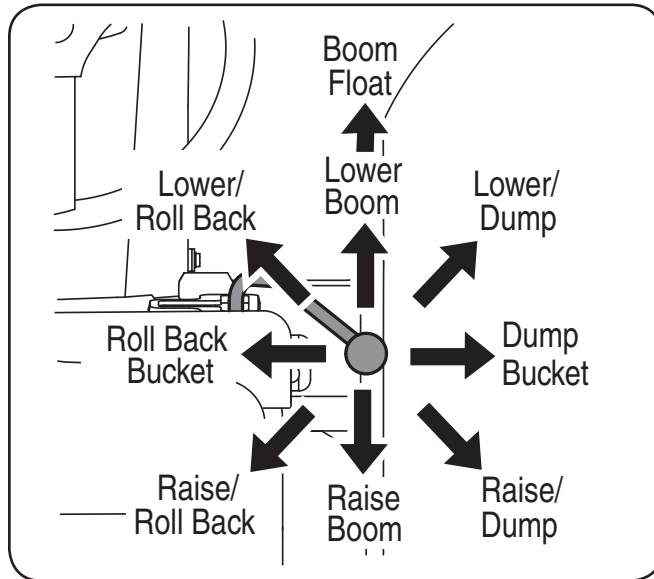

Figure 11
- Continue to carefully extend the boom cylinders (and roll back the bucket if necessary) until the center points of the support plates on the bottom of the loader hitch bracket at the front of loader hitch arms are resting on the ground (Refer to Figure 11). The support plates and bucket should be supporting the loader and the bottom of each mast should now be higher than the tubular bars of the loader mounts.
While seated in the operator's seat of the tractor, use the implement control lever to control the loader movements as follows (Refer to Figure 11):